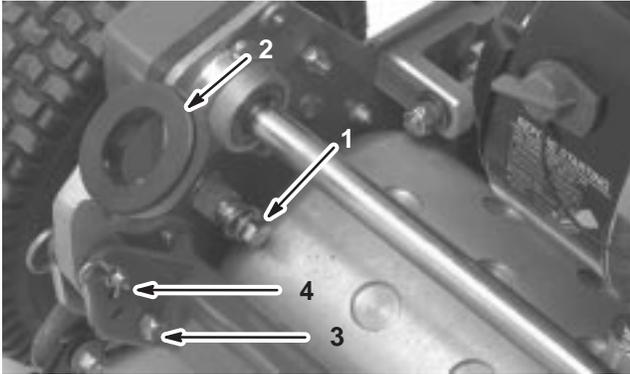

Figure 1
- Remove the capscrew, washer, and lockwasher from the mounting pin on each side of the mower, as shown in Fig. 1.
- Remove the capscrews and locknuts securing the bottom of the handle arms to each side of the mower, as shown in Figure 1.
- Remove the hairpin cotters and ring pins securing the handle arms to the rear of the frame (Fig. 1).
- Insert the handle ends thru the holes in the handle arms and align the holes with the mounting pins (Fig. 1).
- Remove the hairpin cotters from the ring pins on each side of the mower (Fig. 1).
- While supporting the handle, remove the ring pins from each side and raise or lower the handle to the desired operating position. (Fig. 1).